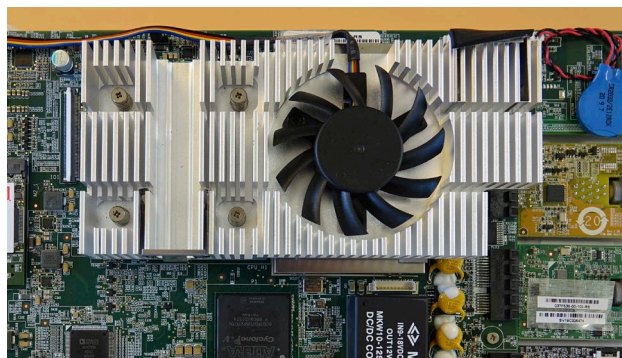

Figure 30 Install the fan
e) Install the new fan with the cable pointing towards the upper edge of the displaying unit (Figure 30)